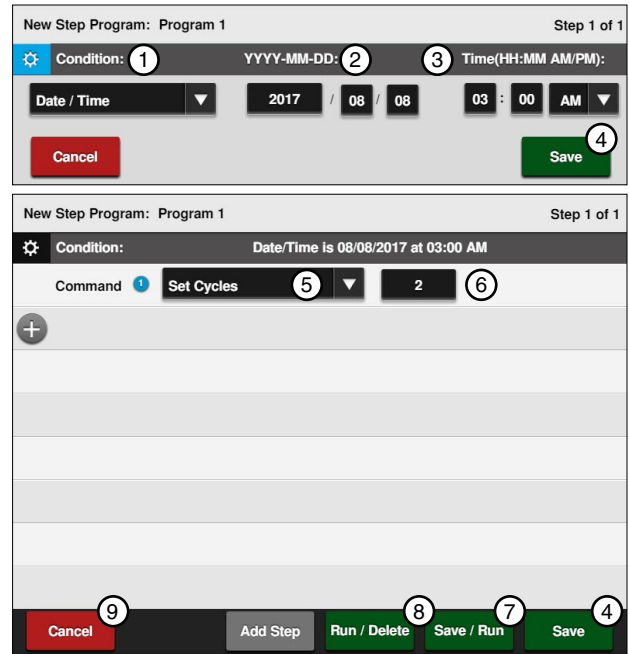

Figure 137-2 1. Date/Time Condition 2. Date 3. Time 4. Save 5. Set Cycles Command 6. Cycles 7. Save / Run 8. Run / Delete 9. Cancel
- a) Select the **Choose Condition** drop-down menu and choose **Date/Time**. Refer to Figure 137-2.
5. Finish the program by selecting one of the following. Refer to Figure 137-2.